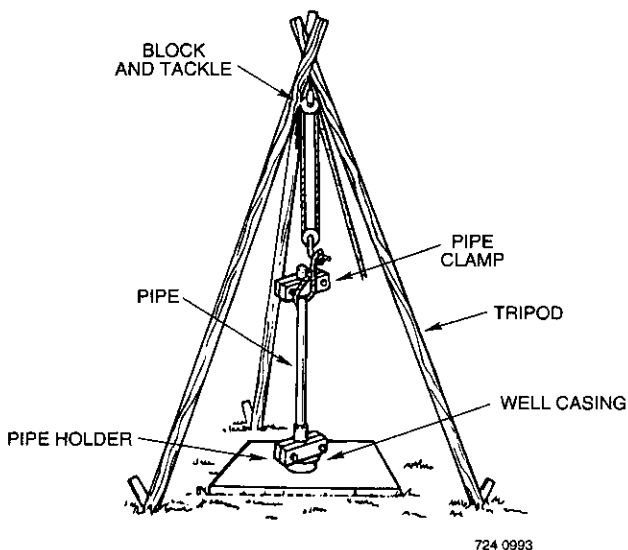

Figure 11
4. Lower pump into well and tape cable to pipe every 10' with plastic tape. For easy and safe handling in lowering pump into well, it is advisable to use a tripod with a block and tackle. A pipe holder should always be used to support the assembly on top of the well casing while making up the next length of pipe. See Figure 11 below.